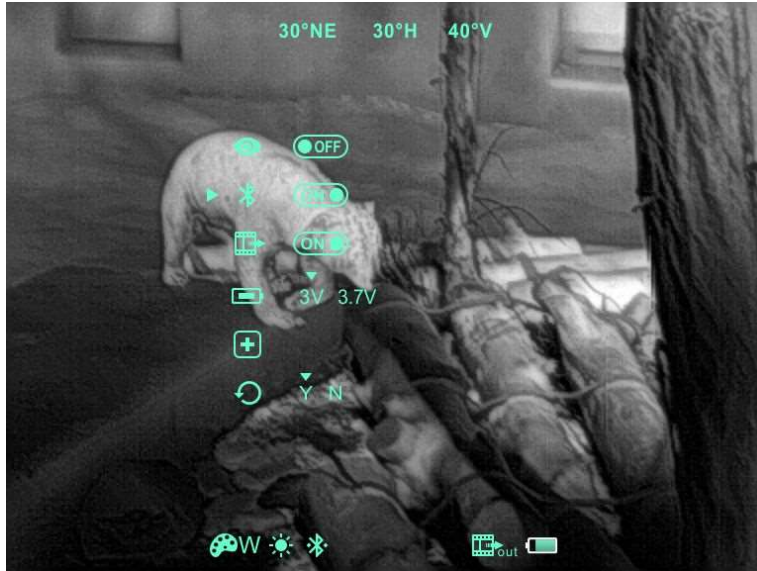

Figure 6-2 Advanced menu interface
Long press the **M (13)** button for 3s to enter the advanced menu interface, as shown in figure 6-2. From top to bottom the six function options are Ultraclear mode, Bluetooth, video out, battery type, blind pixel correction, factory reset, referring to table 6-1 for details.